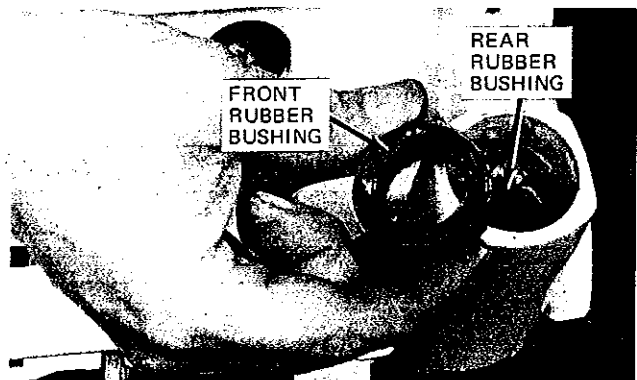

Figure 35
- e. Pry loose and pull out the (front) and (rear) rubber bushings (Figure 35).
- k. Pry loose and pull out rubber bushings (Figure 35).